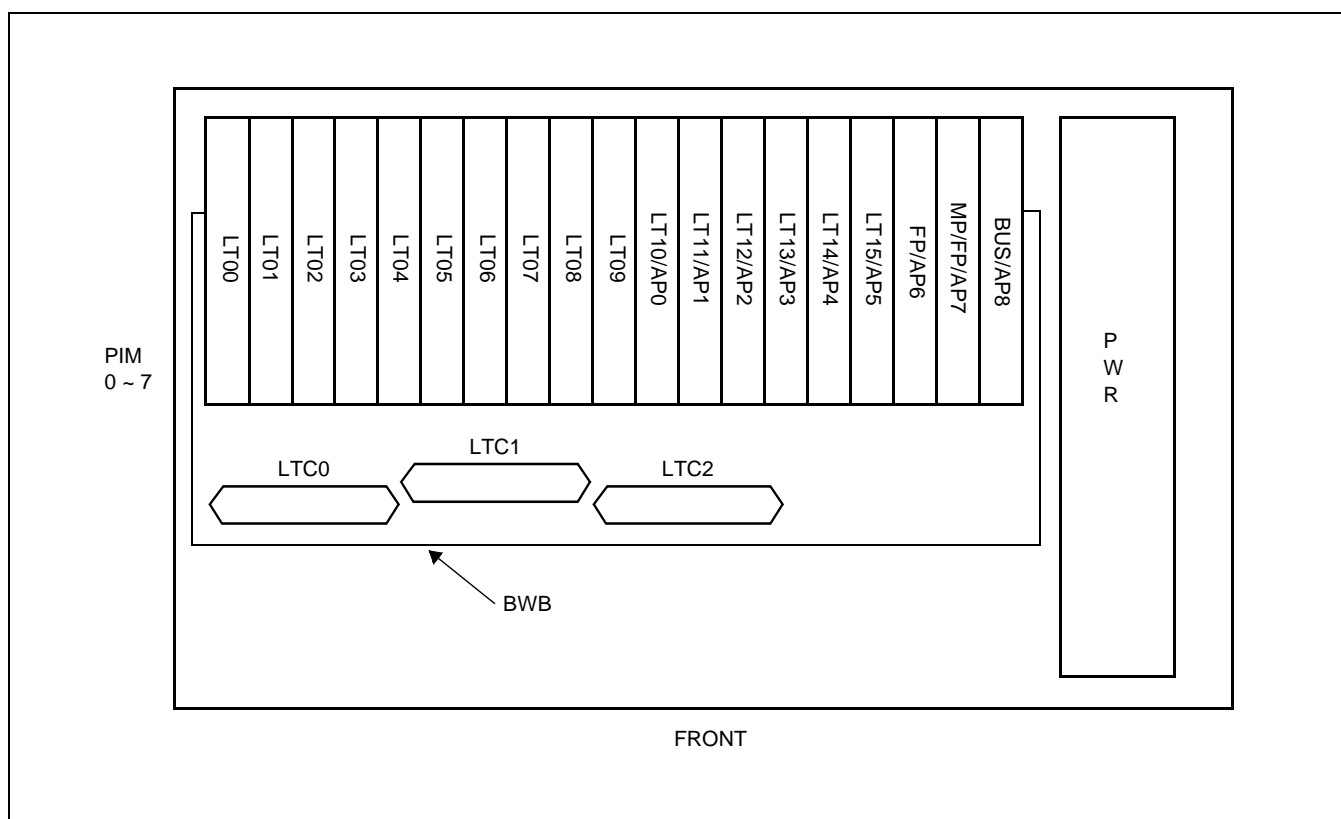

Figure 007-1 Location of the Card Slots and the LTC Connectors
- (1) Connect the cables to the MDF referring to Figure 007-1 and Table 007-1.